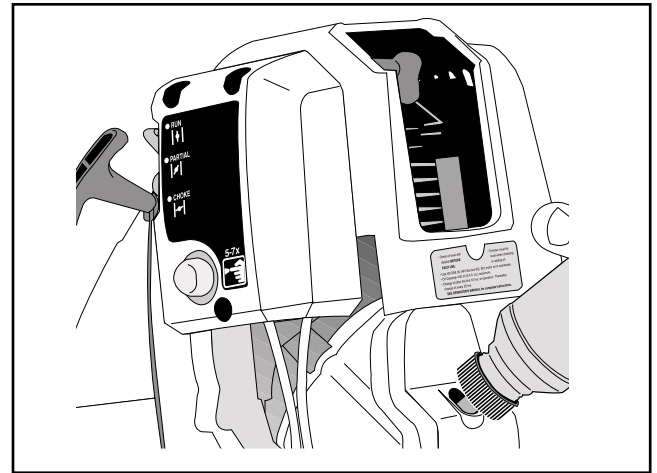
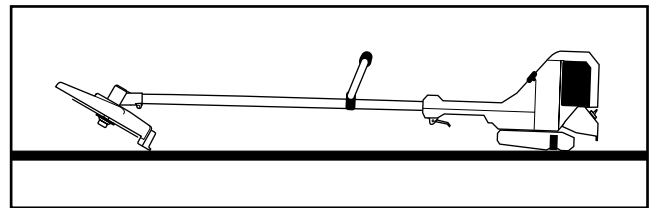

Fig. 15
Fig. 16
3. Remove the oil fill plug / dipstick from the crankcase. Pour the entire bottle of oil into the crankcase (Fig. 15). Make sure the engine is level (Fig. 16) when the oil is poured into the crankcase.
1. Make sure the engine is stopped, level (Fig. 16) and is cool so the oil has had time to drain into the crankcase.